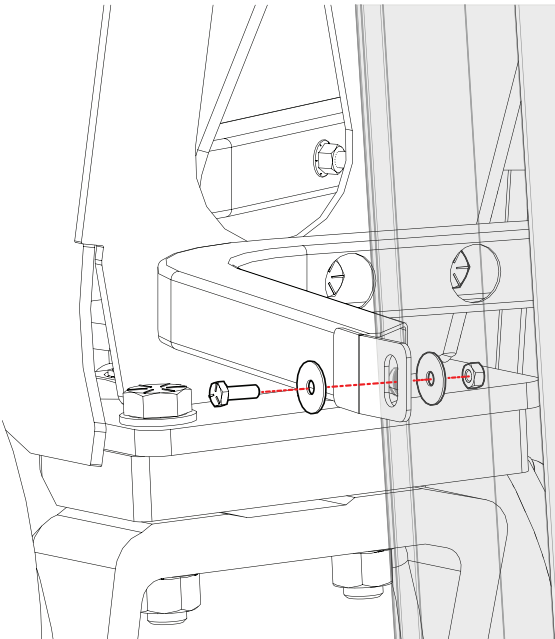

Figure 10: Remove and retain the bolt, washers, and nut that bolt the middle bracket to the tank cover. This is the side that is nearest the cab.
1. On **Twin Vertical Mount** CNG systems, locate the middle bracket on the tank cover (Figure 10).
2. Remove and retain the bolt, washers, and nut that bolt the bracket to the tank cover (Figure 10). This opening will give you clearance between the tank/covers and the PRD/trigger line area to extract the PRD/trigger line.